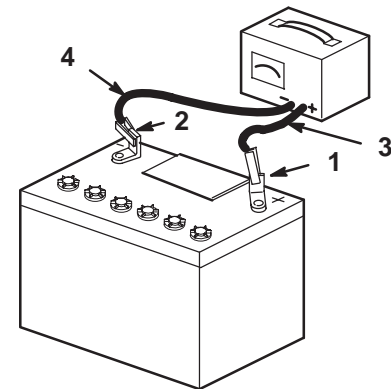

Figure 36
4. When the battery is fully charged, unplug the charger from the electrical outlet, then disconnect the charger leads from the battery posts (Fig. 36).